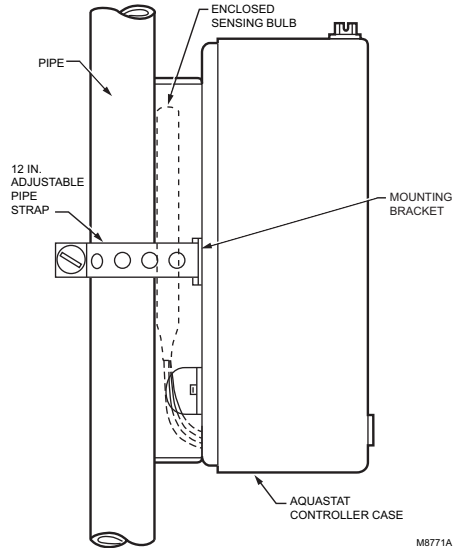

Fig. 3. Mount L4006H directly on surface.
3. Mount controller as shown in Fig. 3 using adjustable 12 in. (294 mm) pipe strap furnished.
When mounting the L4006H on a tank, use a pipe strap of appropriate length, approximately 6-10 ft (17.6- 29.4m) for the tank (not provided). Fit the pipe strap through the slot in the mounting bracket. See Fig. 3.